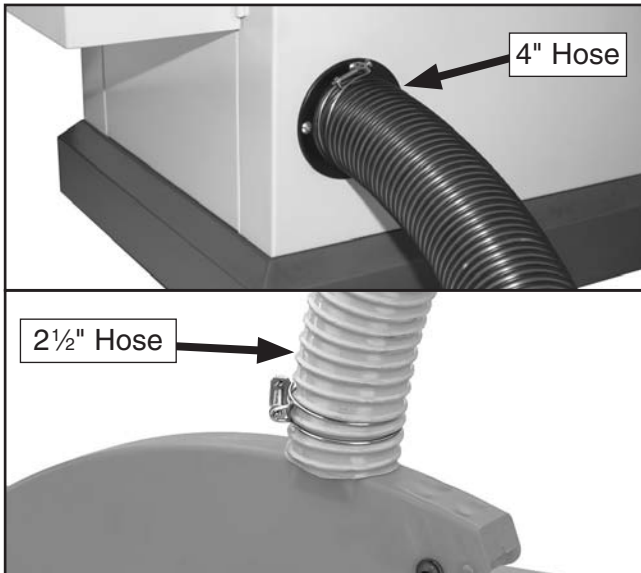

Figure 28. Dust hoses attached.
29. Secure a 4" dust hose to the dust port located under the saw table and the 2½" dust hose to the blade guard (see **Figure 28**).